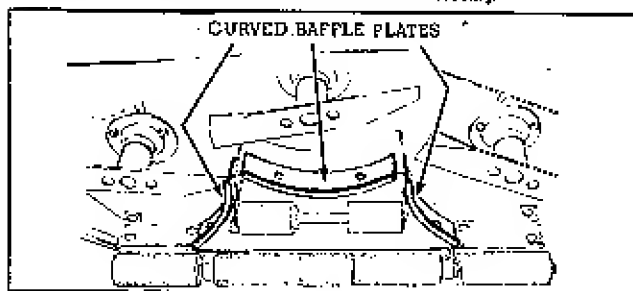

FIG. 6
3. Install the curved mulcher baffles (Left Hand, Right Hand, and Center) as shown in Figure 6. These baffles are each held in place by 2 carriage bolts, lockwashers, and hex nuts. Note that lockwashers, and hex nuts are on the inside of the baffle support.